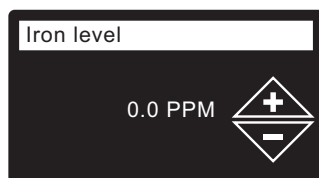

FIG. 26
23. **IRON LEVEL** Press the UP (▲) or DOWN (▼) buttons to set the value for iron in your water (See Figure 26).